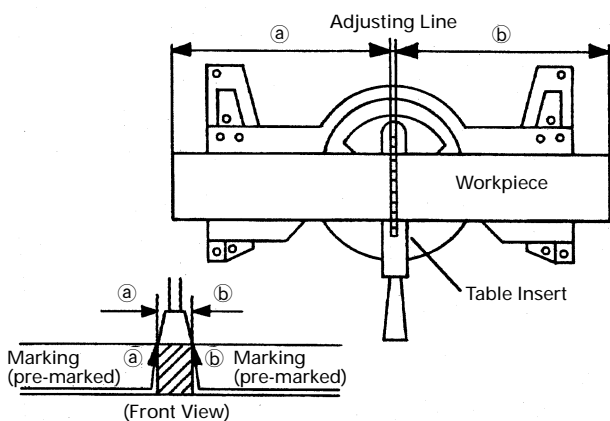

Fig. 21
- (1) As shown in Fig. 21 the width of the saw blade is the width of the cut. Therefore, slide the workpiece to the right (viewed from the operator's position) when length **b** is desired, or to the left when length **a** is desired.
- (2) Once the saw blade reaches maximum speed, push the handle down carefully until the saw blade approaches the workpiece.
- (3) Once the saw blade contacts the workpiece, push the handle down gradually to cut into the workpiece.
- (4) After cutting the workpiece to the desired depth, turn the power tool OFF and let the saw blade stop completely before raising the handle from the workpiece to return it to the full retract position.